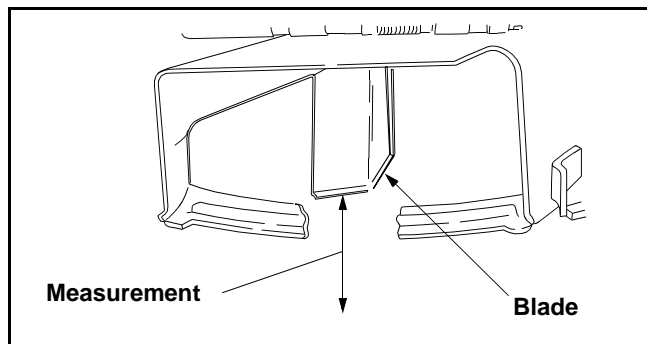

Figure 18
- Raise the lift handle to the highest setting (7).
- Position the mower blades so they run perpendicular to the Z-Series. See Figure 18.